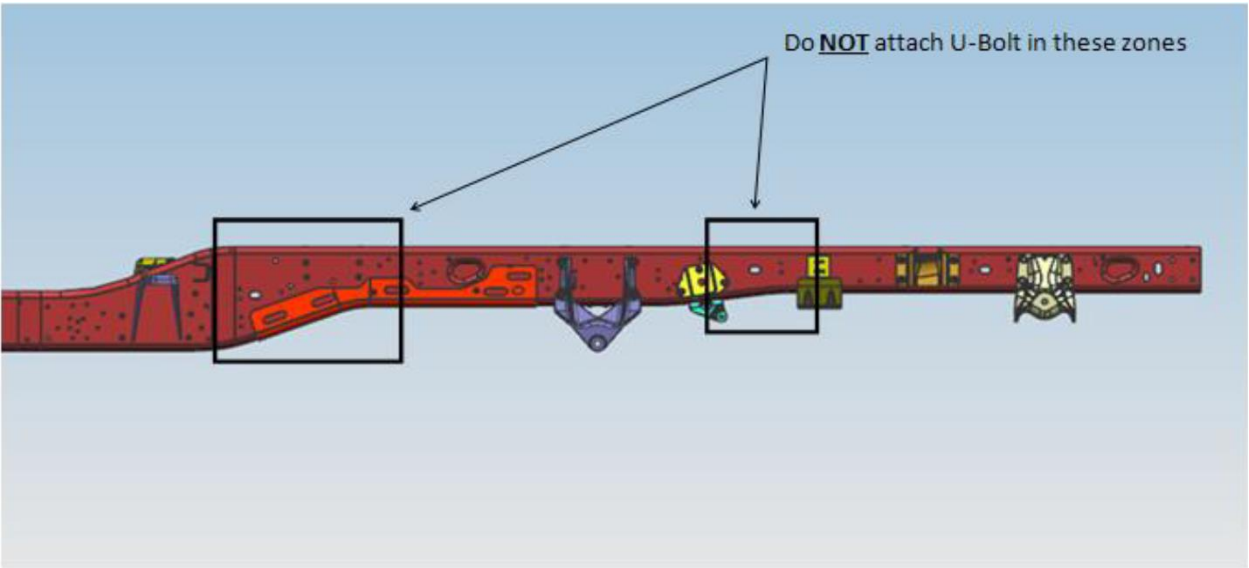

FIGURE 3
**Note:** Do not use U bolts on any other location other than flat sections of the rail. If the rail is changing depth in the area necessary to attach, always use a shear plate. Critical zones to avoid U-bolt attachment are show in **Figure 3 & 4.**